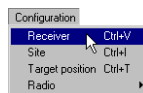

Figure 2-13. Configuration->Receiver
2. Once connected, click on **Configuration->Receiver** (Figure 2-13).